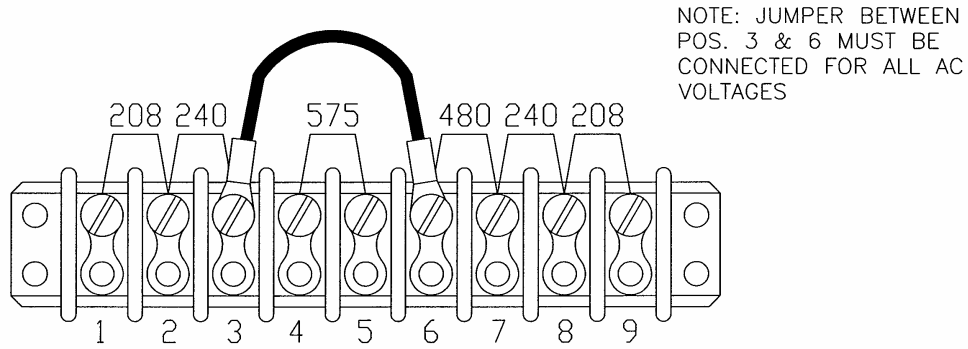

Figure 10.1 A.C. Input Voltage Selection (Single Phase)
- Locate the terminal block with jumpers (one terminal block per phase, if three phase) and the Stop/Caution label (on the front door) describing the various voltage/jumper configurations (Refer to Figures 10.1, 10.2 or 10.3). The terminal block with jumpers is located on the main transformer.